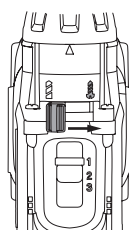

Fig. C5.03
- Set the operating mode to "Screw" (Fig. C5.03)